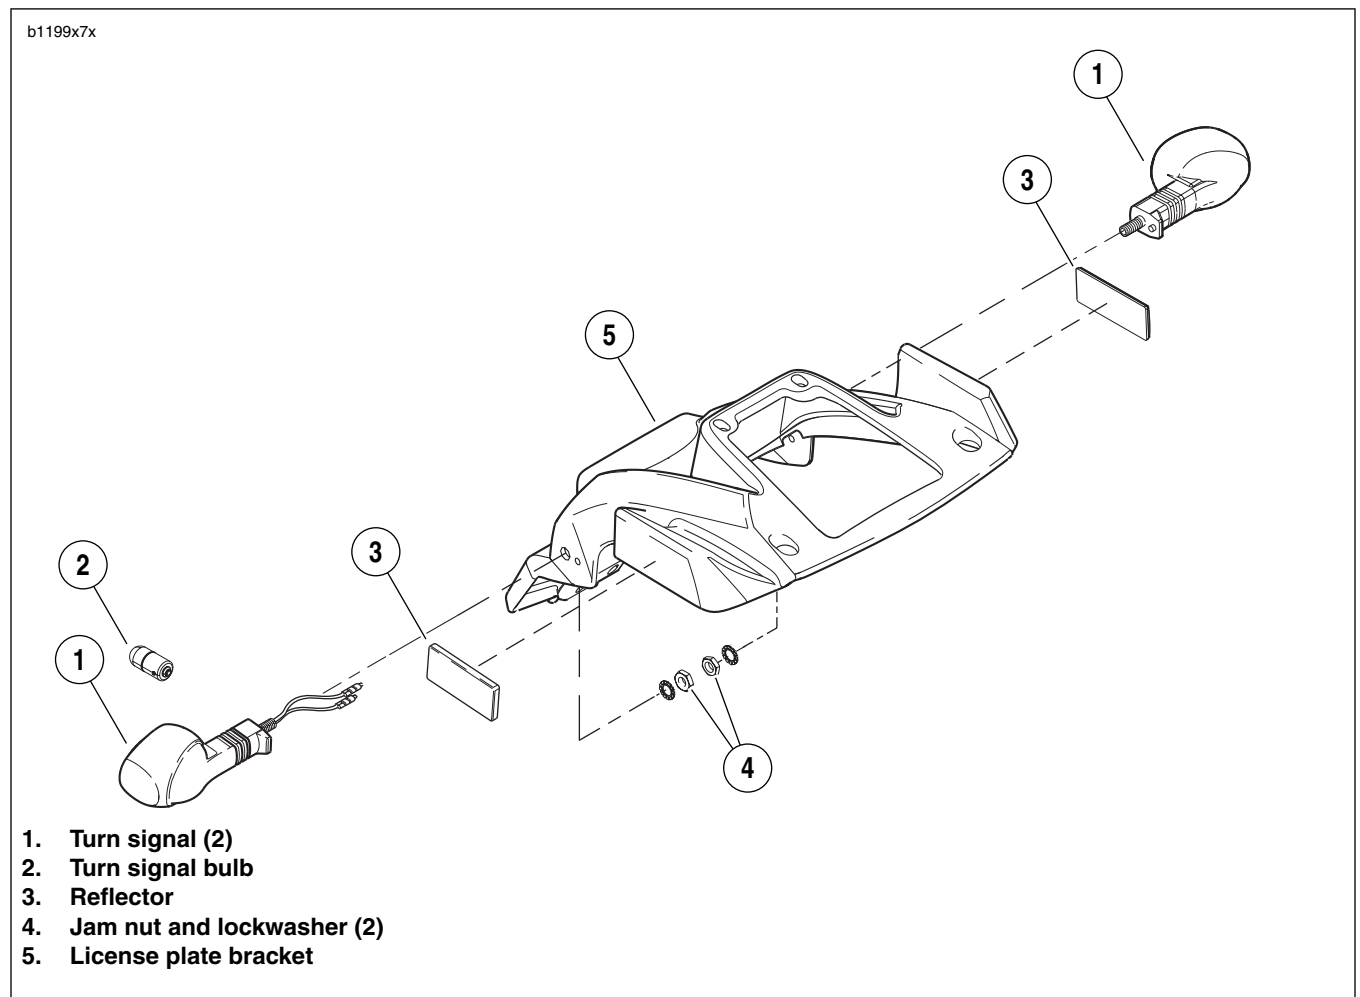

Figure 7-56. Rear Turn Signals
4. See Figure 7-56. Remove fastener and lockwasher (4).
5. Remove turn signal from license plate bracket (5).
- See Figure 7-56. Attach turn signal using lockwasher and fastener (4). Tighten fastener to 25-28 **in-lbs** (2.8-3.2 Nm).